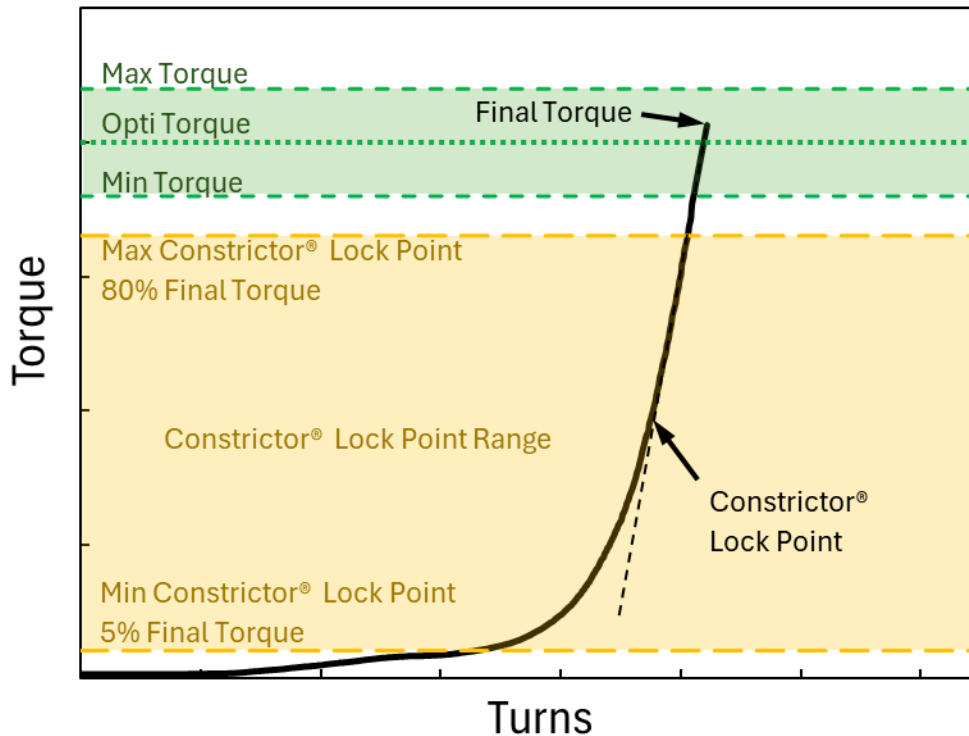

Figure 5 – Bushmaster® SP Torque-Turn Signature
- Verify the make-up result against Figure 5.
- Figure 5 shows an example of an acceptable make-up signature.